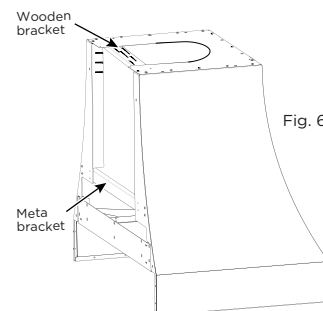

Fig. 6
13. Remove the upper wooden bracket and lower metal bracket from the Oristano. Discard these brackets. (Fig. 6)